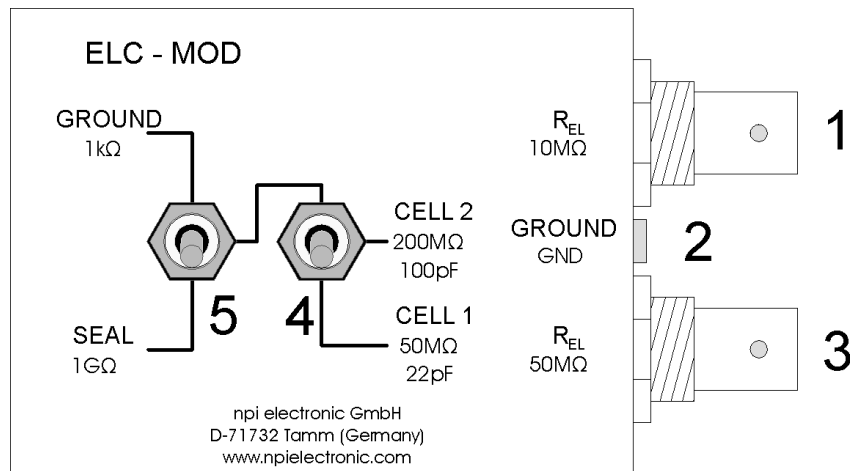

Figure 7: passive cell model
- Set switch #4, Figure 7 to the lower position.
- Set switch #5, Figure 7 to GROUND position. The 1 k $\Omega$  resistor simulates the resistance of the bath solution. This can be used to train cancellation of offsets, using the bridge balance and using the capacity compensation.
- Set switch #5, Figure 7 to SEAL position. The 1 G $\Omega$  resistor simulates the SEAL resistance when forming a GIGASEAL in patch clamp experiments.
Intracellular recordings can be mimicked with one of two cells with different properties. Use the 50 M $\Omega$  electrode connector (#1, Figure 7) for an experiment with sharp electrodes or the 10 M $\Omega$  electrode connector (#3, Figure 7) for simulating an experiment with patch electrodes.
- Switch the CELL membrane switch (see #4, Figure 7) to the desired position (CELL 1 or CELL 2).
- Connect the MICROELECTRODE connector of the headstage to ground. If parasitic oscillations occur use a 10 k $\Omega$  resistor for grounding. If you use a cell model set #3 in Figure 7 to GROUND.